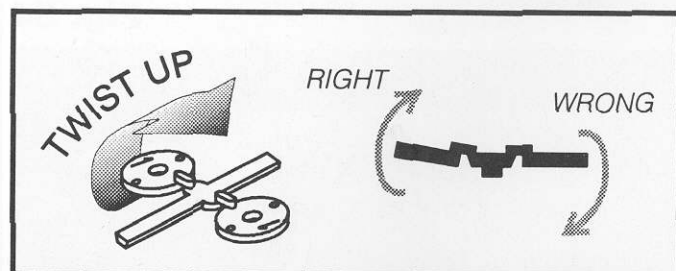

Fig. 53
□ **Figs. 51, 52 & 53** In the same bag you will find the new style #6464 #1 teflon shock piston. The new teflon pistons are molded to help eliminate the possibility of burrs on the piston edge, which would interfere with smooth shock action in the shock body. To properly remove the shock piston from the tree, twist the piston up as shown in fig. 53. (Twisting down will leave a damaging burr on the piston.) If there are any remaining burrs **carefully** remove them with a sharp hobby knife.